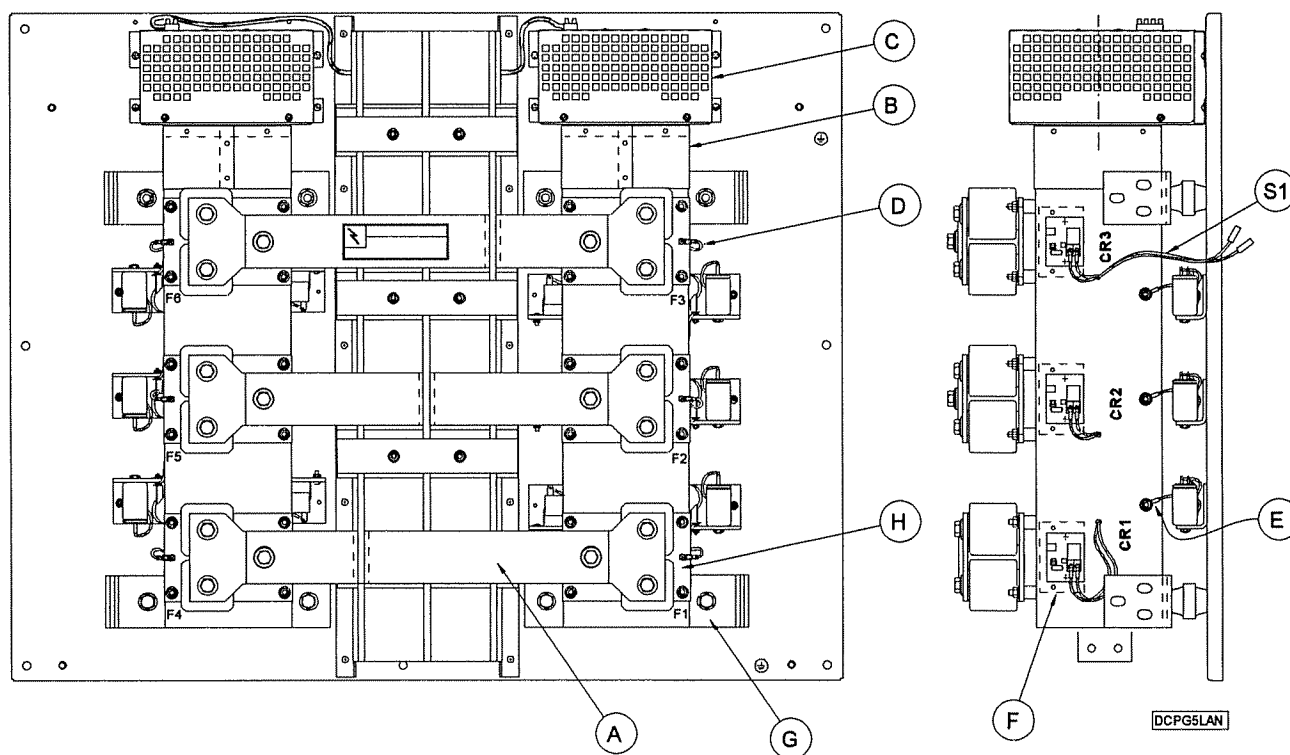

FIGURE 7-8. ARMATURE BRIDGE ASSEMBLY, 1800 AMP
3. Refer to Figure 7-8.
4. Remove bus bar (A) between main (vertical) bus bar and fuses, three locations.
5. To remove and replace any of the fuse groups* F1-F6, remove the fuse group with the fuse bus (H) attached to its far end as an assembly. Then remove and replace the fuse, being certain to follow the torque specified in Table 7-6, Torque Specifications, Armature Bridge Assembly.
6. Remove air duct insulator (B) between fan and thyristor module. (The air duct is Velcroed together on top.)